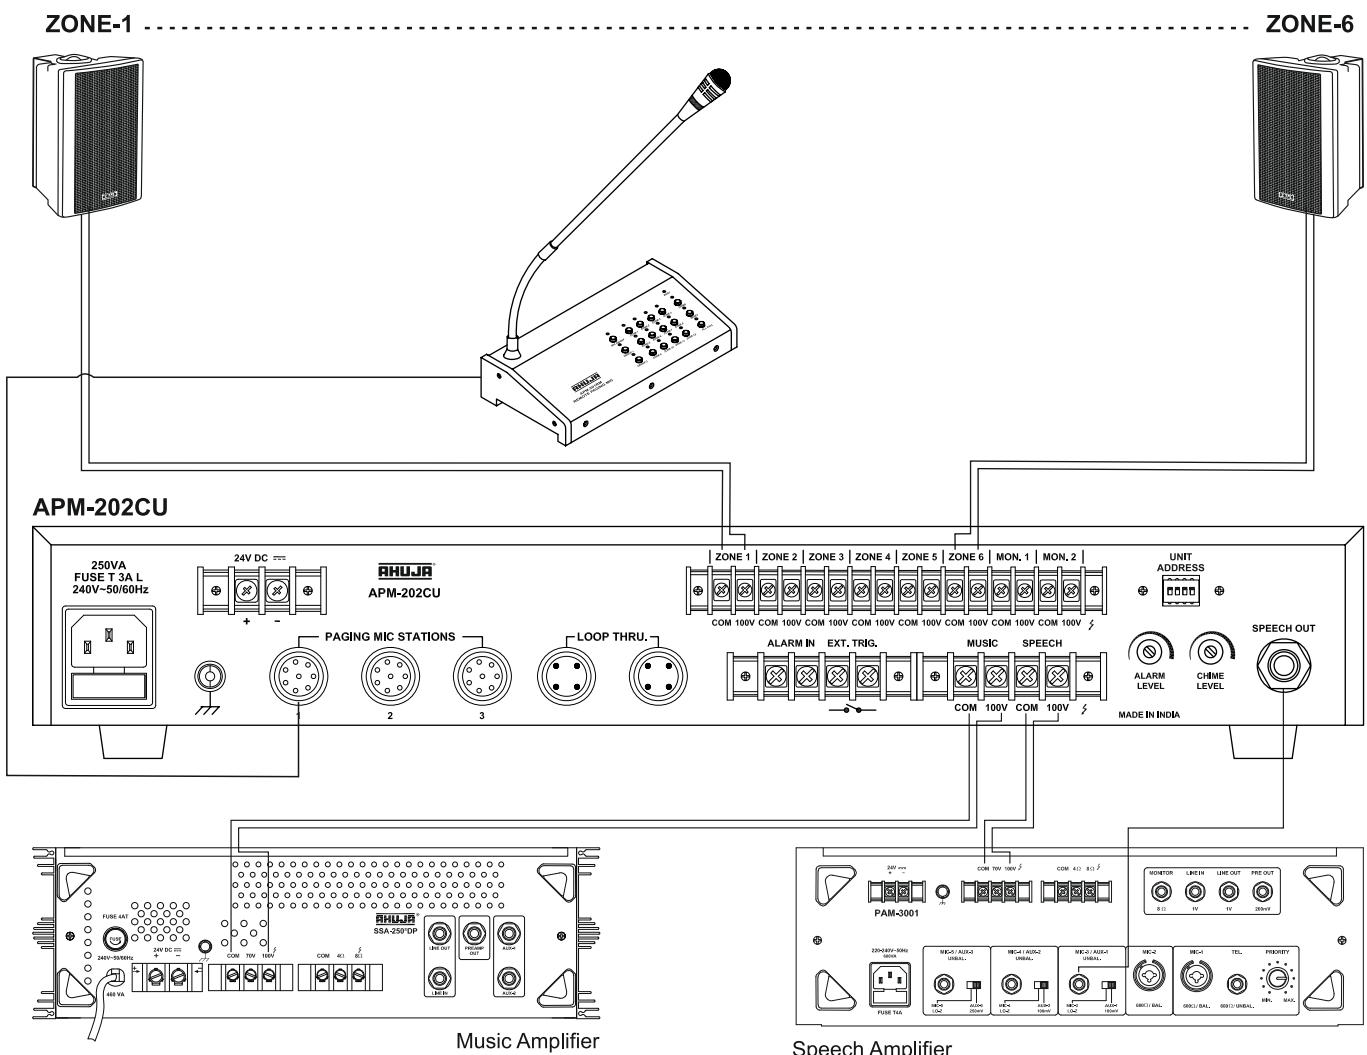

Fig. 6
- 100V output from speech amplifier should be connected to SPEECH terminal block on rear panel of APM-202CU as shown in Fig. 6.
- Connect the music source to the music amplifier for back ground music. 100V output from music amplifier will be connected to MUSIC terminal block on rear panel of APM-202CU as shown in Fig 6.